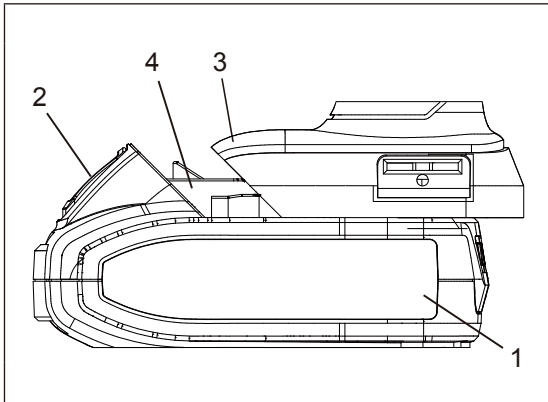

FIG. 3
1. Remove the discharged battery (1) from the drill by pressing downward on the battery release button (2) and sliding the battery backward until it is removed from the drill handle (3) (Fig. 3).
2. Slide the fully charged battery onto the matching keys (4) in the drill handle where the discharged battery has been removed.
NOTE: See Fig. 3 for complete procedure.